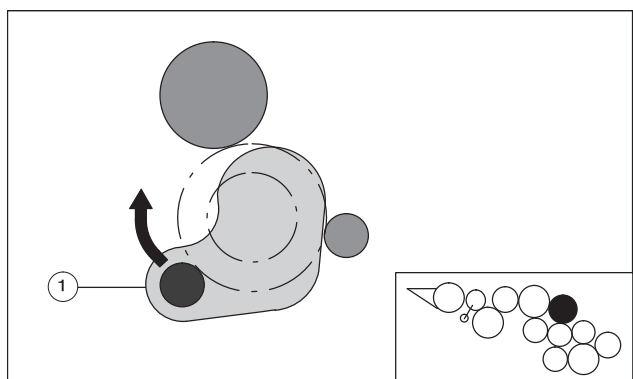

Fig. 23 Removing the 1st inking form roller
1. Press the levers at the journal box on D.S. (Fig. 23/1) and O.S. upwards up to stop.